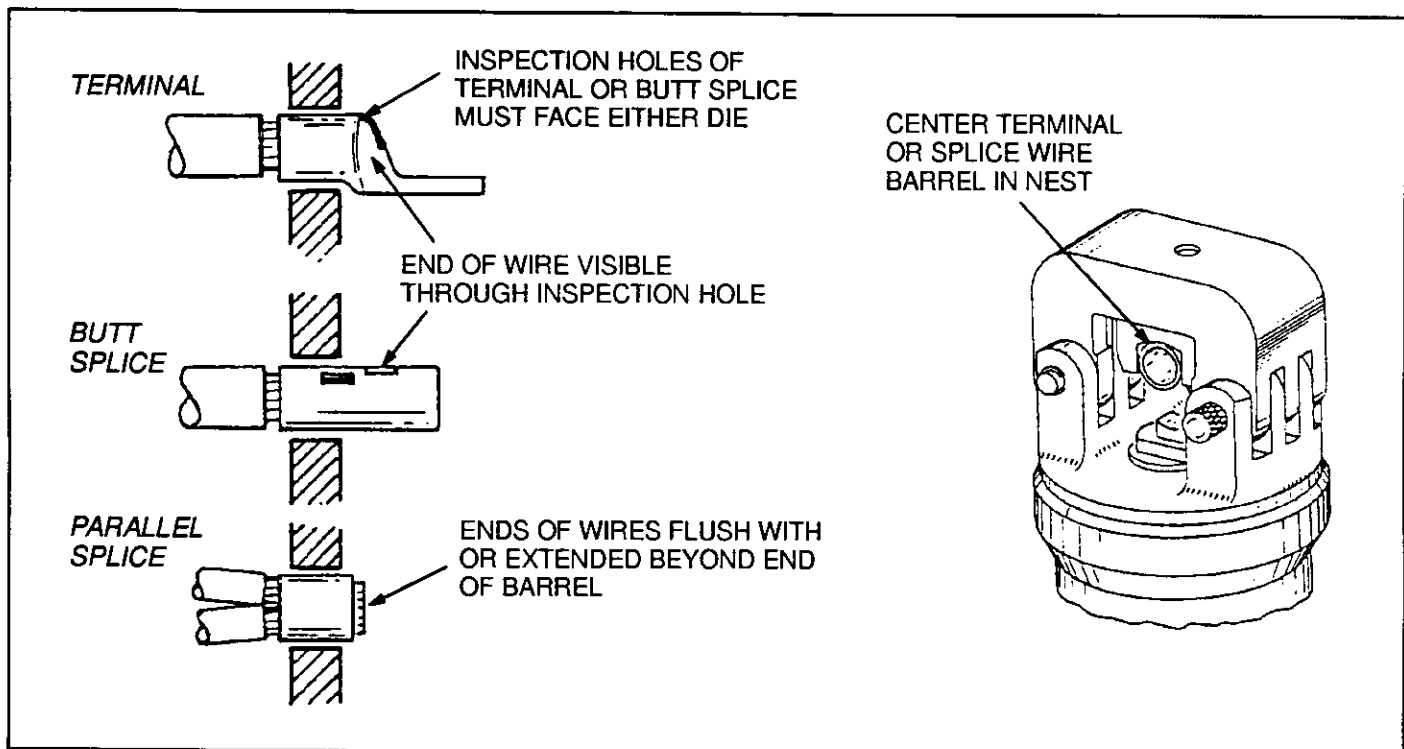

Fig. 4
**4. CRIMPING PROCEDURE (Figure 4)**
*If crimping a terminal butt splice, ensure that inspection hole(s) of face either die. See Figure 4.*